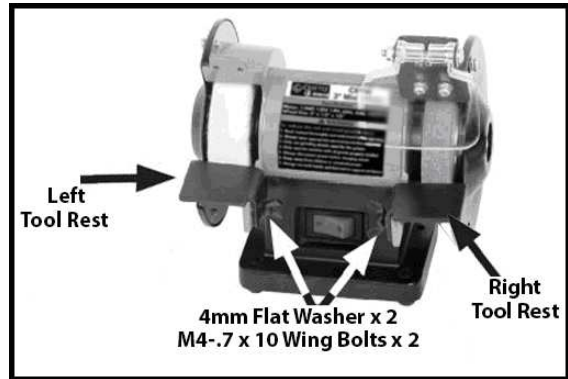

Figure 7
3. Connect each tool rest to the grinder using (2) 4mm flat washers and (2) M4-.7 x 10 wing bolts as seen in figure 7 below.